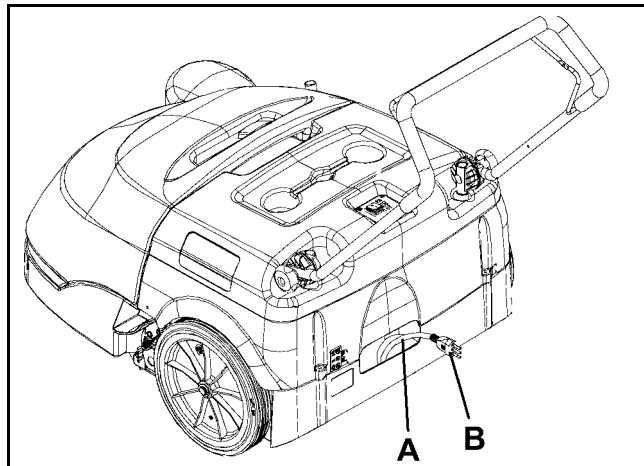

Figure 5
Carefully check the battery charger cable (A, Fig. 5) and the relevant plug (B) for cuts, wear and other damages. If necessary, have them replaced by Clarke Service Center.